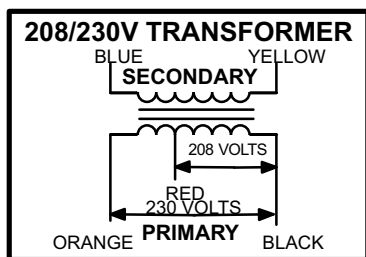

FIGURE 5
All use a single line voltage to 24VAC transformer mounted in the control box. Transformer supplies power to control circuits in the unit. The transformer is rated at 70VA and is protected by a 3.5 amp circuit breaker (CB8). The 208/230 (Y) voltage transformers use two primary voltage taps as shown in figure 5, while 460 (G) and 575 (J) voltage transformers use a single primary voltage tap.